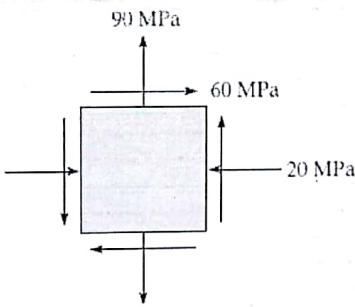

Fig. 2
- 2.** The state of plane stress at a failure point on the shaft is shown on the element in Fig. 2. Represent this stress state in terms of the principal stresses. Also, represent this stress state in terms of the maximum in-plane shear stress and associated average normal stress. [116, -46.4 MPa,  $66.3^\circ$  and 81.4 MPa, 35 MPa and  $21.3^\circ$ ]
- 3.** Recalculate the stresses in Fig. 1 and Fig. 2 by using Mohr's Circle Method.